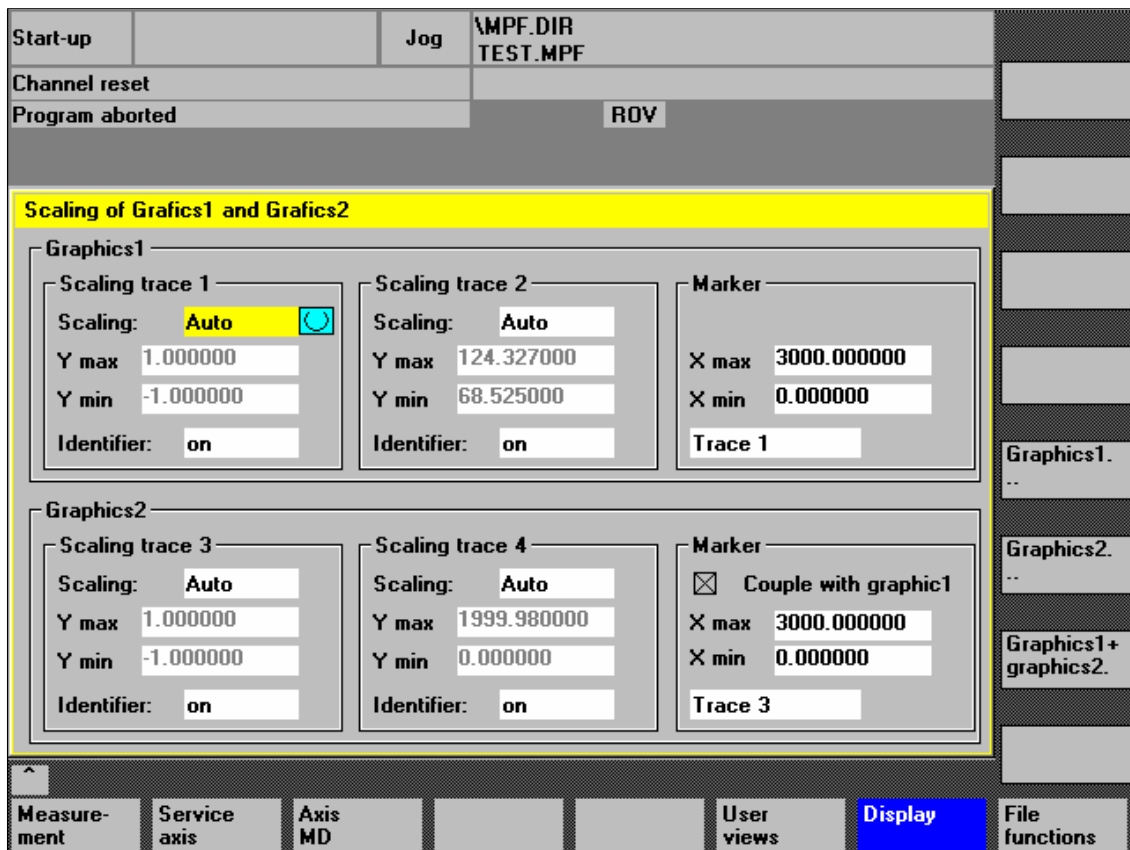

Fig. 13-12 Menu: Scaling of graphics
- Switching over the display from double to single graphics and vice versa (this function also exists in the scaling menu Fig. 13-12, page 13-440)